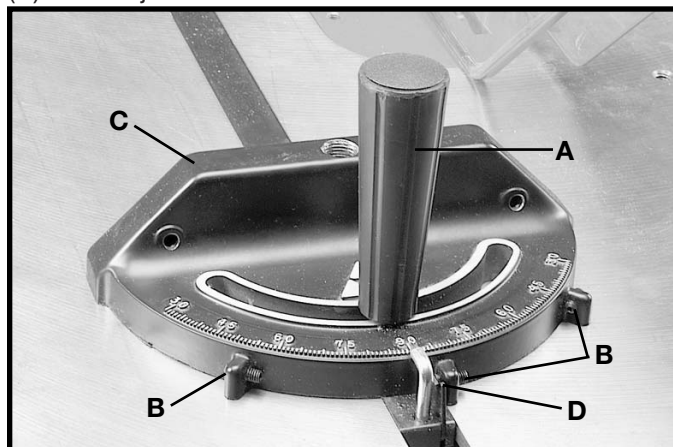

Fig. 103
2. The miter gage is equipped with adjustable index stops at 90 degrees and 45 degrees right and left. Adjustment to the index stops can be made by tightening or loosening the three adjusting screws (B) Fig. 103.
3. To rotate the miter gage, loosen lock knob (A) Fig. 103, and move the body of the miter gage (C) to the desired angle.
4. The miter gage body will stop at 90 degrees and 45 degrees both right and left. To rotate the miter gage body past these points, the stop link (D) Fig. 103, must be moved up and out of the way.